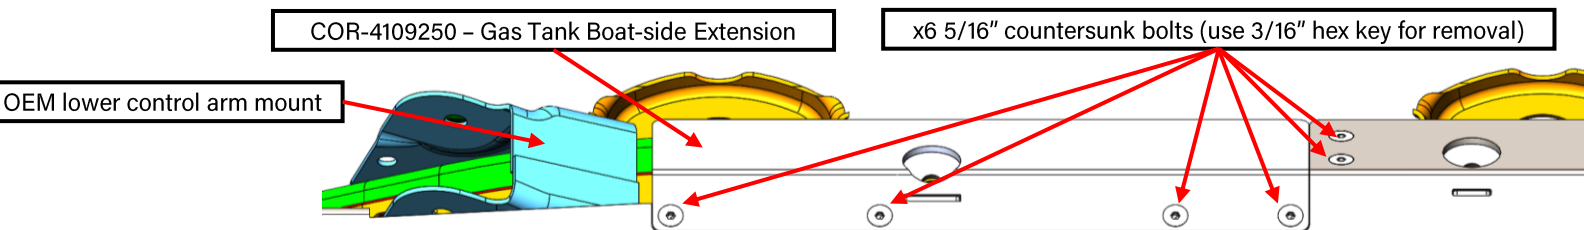
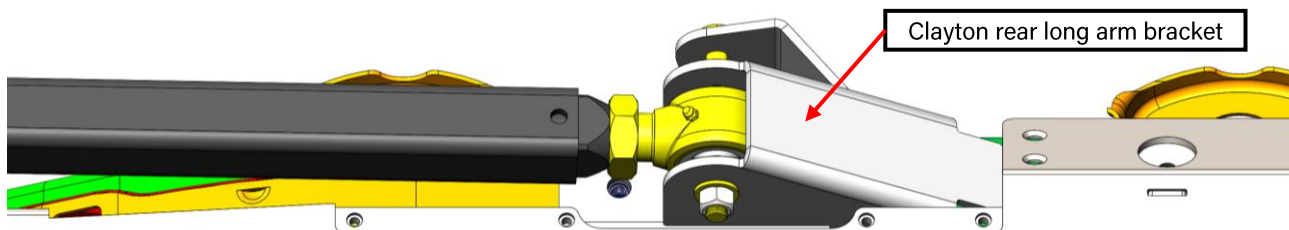

Figure 16: Boat-side Extension installed for a short-arm suspension setup using OEM lower control arm frame mounts
Figure 17: Boat-side Extension removed for a Clayton long-arm suspension setup using weld-on frame bracketry
13. **LONG ARM NOTE:** If you are installing the new gas tank skid plate on a vehicle with Clayton Off Road Rear Long Arm Brackets, note that you must remove of the Gas Tank Extension for the new skid plate **before installing the new skid plate onto the vehicle.** See photos below. Use a 3/16" hex key to remove the x6, 5/16" countersunk bolts from the threaded inserts. Figure 16 shows the Gas Tank Extension installed with the OEM short-arm control arm mount. Figure 17 shows the extension removed, the OEM short-arm control arm mount removed from the frame, and the Clayton Rear Long Arm Bracket installed.